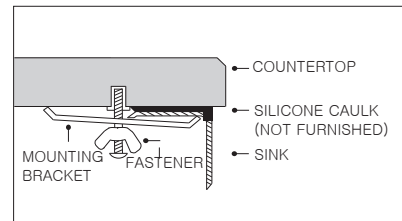

Figure 3
- C. Recess mount: Sink rim is recessed approximately 1/8" from the edge of countertop opening. Cut countertop approximately 1/8" inside of flush mount cut line. (Figure 3)